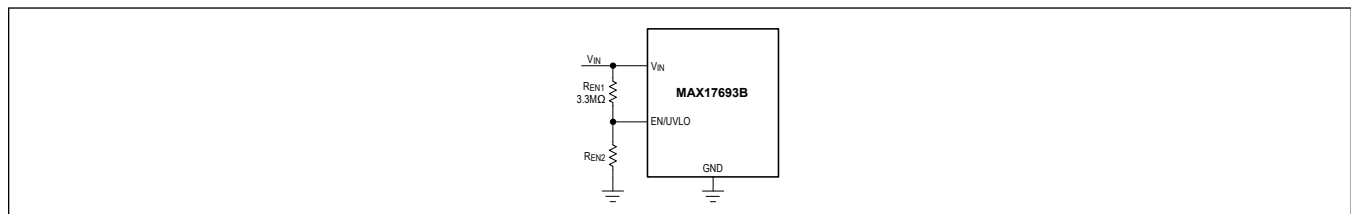

Figure 2. Programming EN/UVLO in MAX17693B
1.215V (typ). The MAX17693A/B turn off if the EN/UVLO pin voltage falls below 1.1V (typ). A resistor-divider from  $V_{IN}$  to GND can be used to divide and apply a fraction of the input voltage ( $V_{IN}$ ) to the EN/UVLO pin as shown in Figure 2. The values of the resistor-divider can be selected such that the EN/UVLO pin voltage exceeds the EN/UVLO turn-on threshold at the desired input-supply voltage.